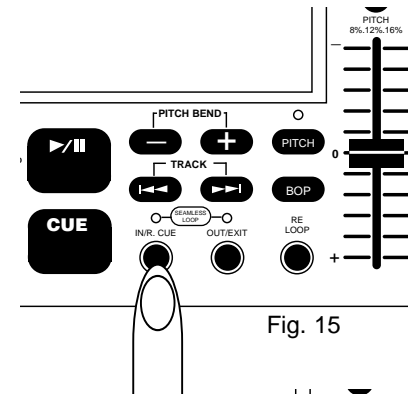
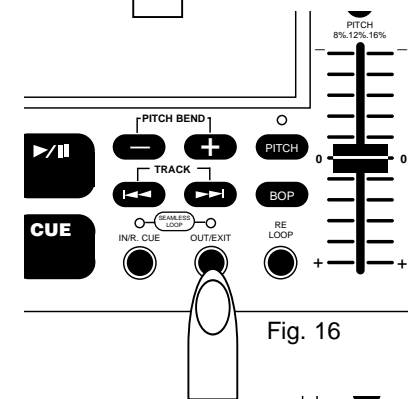

Fig. 15
Fig. 16
- Press **PLAY/PAUSE BUTTON (25)** so a CD is playing.
- Press **IN/R. CUE BUTTON (15)**. This sets the starting point of the SEAMLESS LOOP. The **IN/R. CUE LED** will light (Fig. 15).
- Press **OUT/EXIT BUTTON (18)** to set desired ending point of the SEAMLESS LOOP. The **IN/R. CUE** and **OUT/EXIT LEDs** will flash indicating SEAMLESS LOOP mode has been activated.
- The **LOOP INDICATOR (39)** will display in the LCD display (27) indication that a loop is running.
- To exit a SEAMLESS LOOP, press the **OUT/EXIT BUTTON (18)**. The **IN/R. CUE** and **OUT/EXIT LEDs** will remain on, but will stop flashing. Music will resume normal play (Fig. 16)
loops cue point. (Fig. 16). This disengages the SEAMLESS LOOP mode and allows you to edit the loops ending point.
- (2) Press **OUT/EXIT BUTTON (18)** again for a new loop ending point (Fig. 16).
- (3) **FOR A SHORTER LOOP:** Press the **OUT/EXIT BUTTON (16)** at sooner point in the track.
- (4) **FOR LONGER LOOP:** Press the **OUT/EXIT BUTTON (16)** at later point in the track.
- During normal playback, pressing the **TIME BUTTON (9)**, will change the display time display information (47) to one of the following settings: